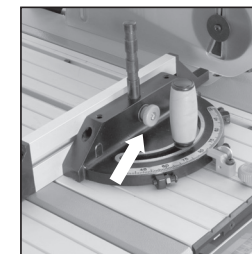

FIG. 19
**Note:** The extruded aluminium face plate of the mitre gauge should be adjusted so that it is close to, but does not foul the blade guard. Adjust by loosening the finger nut and sliding the faceplate to the required position. Securely tighten the thumb nut. (Fig. 19)